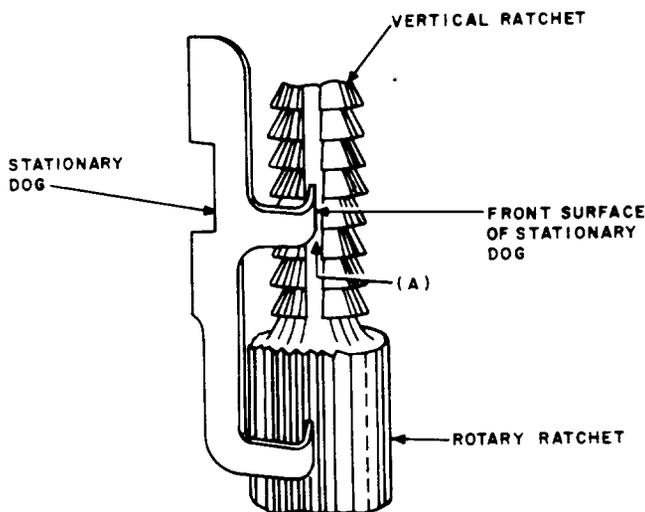

Fig. 18—Double Dog and Associated Parts
**3.24 Double-Dog Play:** The double dog shall not bind nor have vertical play (Fig. 18, location A) greater than 0.002 inch. Check the minimum value by sight and feel and the maximum value with the 92S gauge. To detect bind in the double dog, remove the pressure of the double-dog spring and the release link from the double dog.